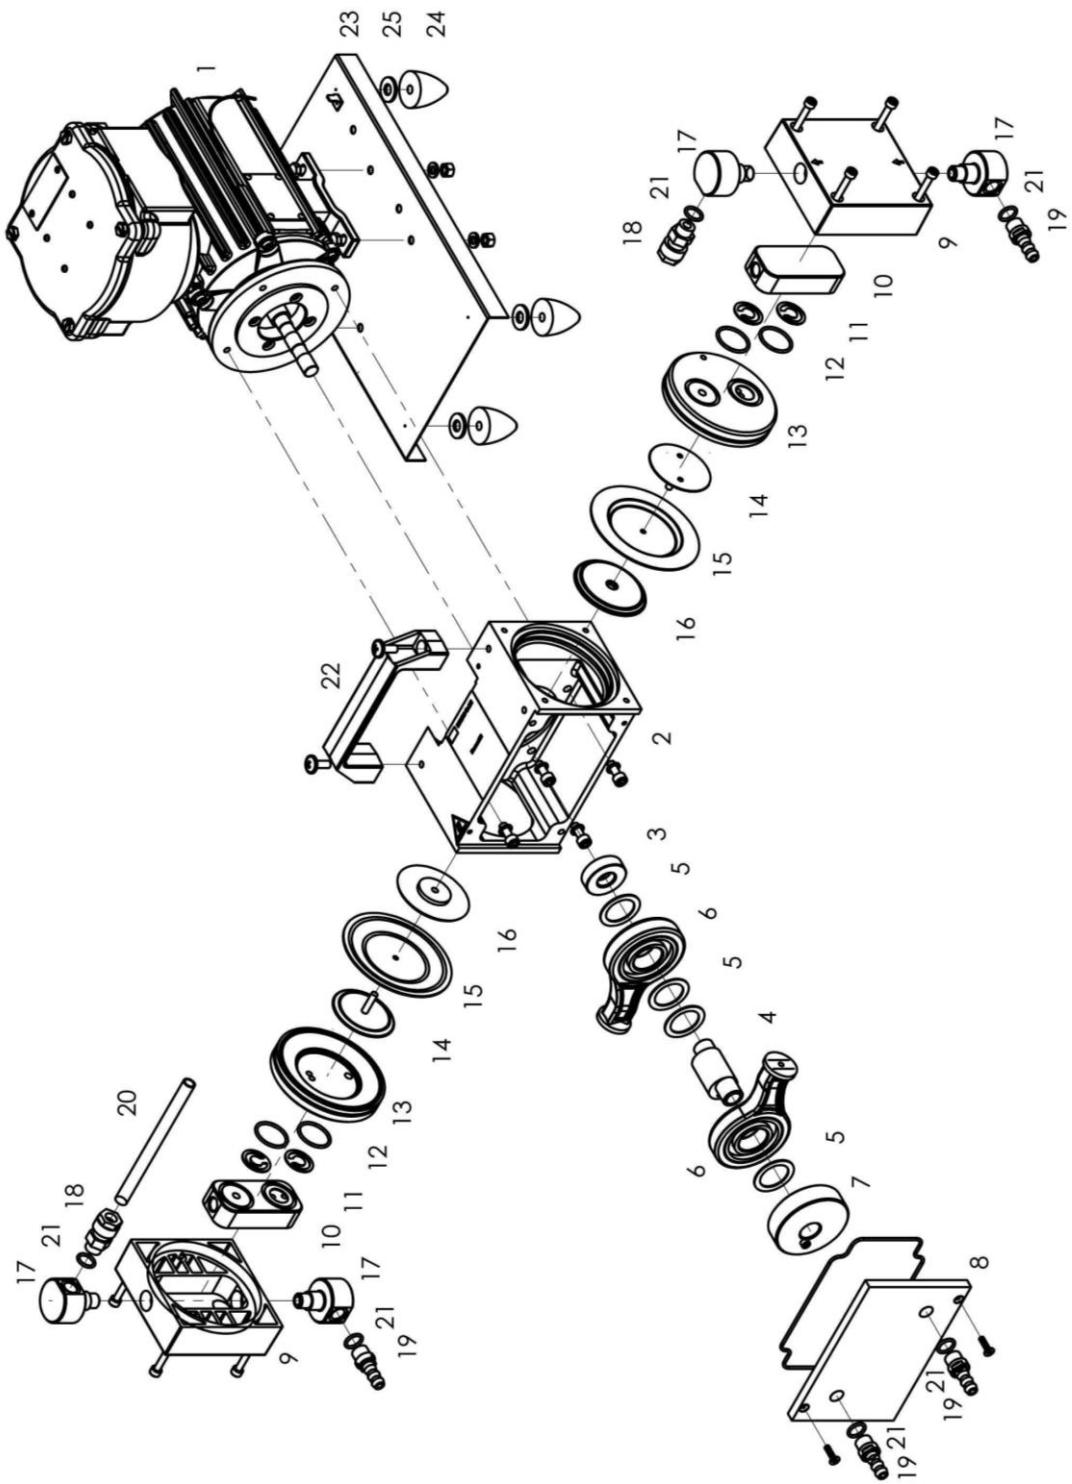

Fig. 7 Exploded view MPC 301 Zp Ex
2. Use the size 3 pin-type face wrench to tighten the pressure disc (8), the diaphragm (7) and the strain washer (6) with the correct torque of 5 - 6 Nm.
3. Bring the connecting rod (see Fig. 7; 8) and the diaphragm (7) into the central position.
4. Replace the pump head (5).
5. Insert the valves (3) and the o-rings (4).